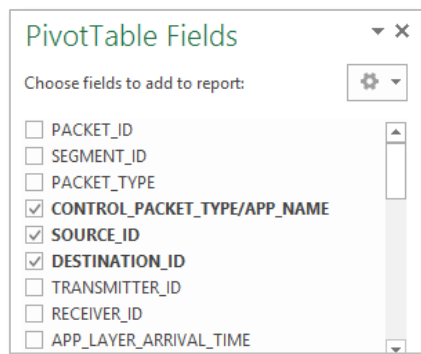

Figure 8-37: Select the check box of SOURCE_ID, DESTINATION_ID and CONTROL_PACKET_TYPE/APP_NAME in PivotTable Fields
- If you want to analyze packets sent from all sources to all destinations, then check SOURCE_ID, DESTINATION_ID and CONTROL_PACKET_TYPE/APP_NAME as shown below Figure 8-37.